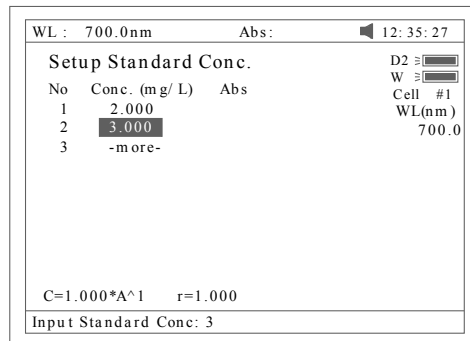

Fig 31
- Enter standard concentrations of samples by pressing the Numeric keypad followed by **[ENTER]**. Press **[^]** or **[v]** to modify the inputted data Fig31.